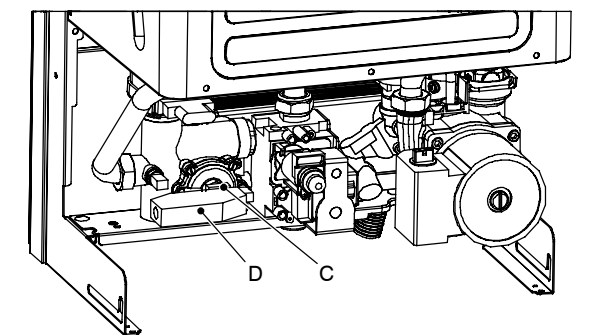

Fig. 53
- 2 Remove the fork C (Fig. 53).
- 2 Remove the fork C that holds the micro-switch housing D (Fig. 53).